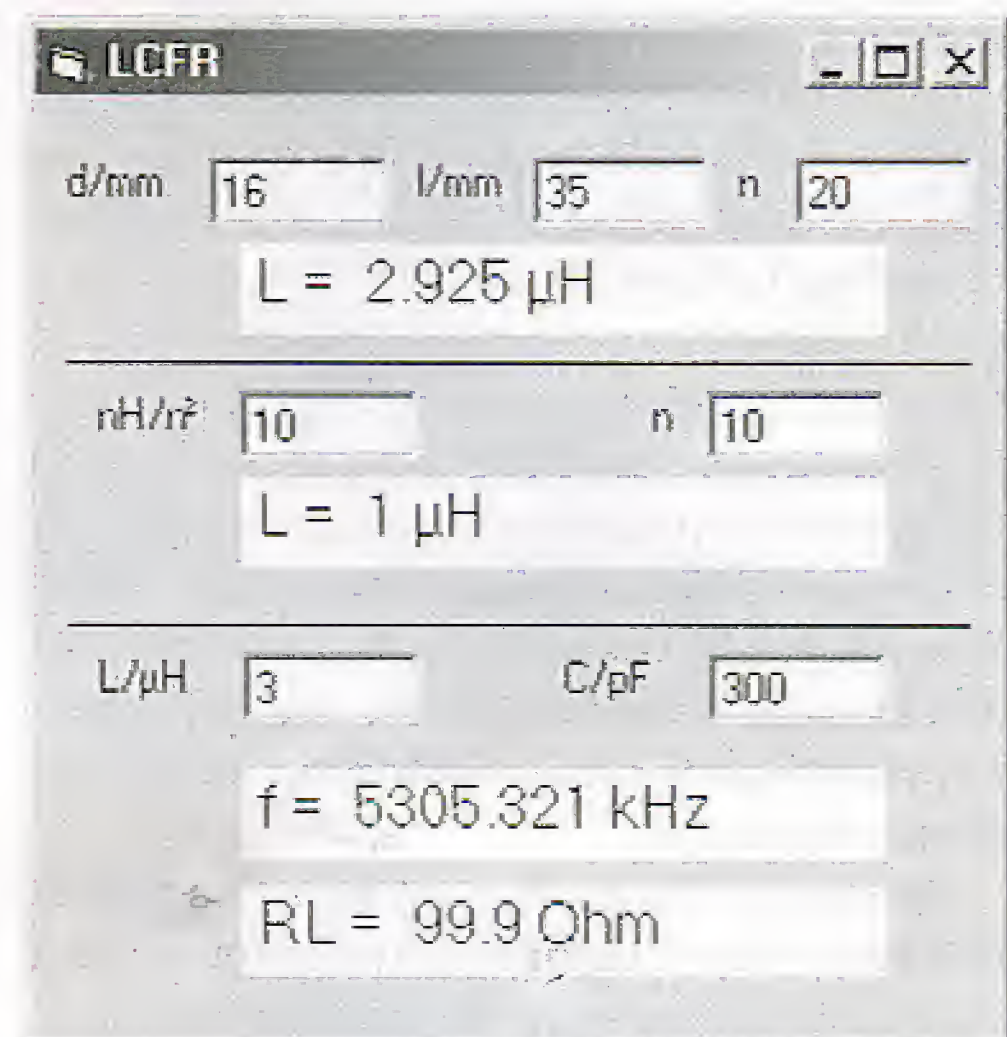

Figure 6. User interface for the inductor calculation program.
A small Visual Basic (VB) program called **LCFR** has been written to make calculations for inductors and resonant circuits. The source and executable code for this program can be obtained free of charge from the *Elektor Electronics* website. The number is **030398-11**, see this month's Free Downloads. This program, whose user interface is shown in Figure 6, calculates the inductance of air-core inductors and inductors using cores with known A_L values. In addition, it can determine the resonant frequency and inductive impedance R_L of the inductor at resonance if a capacitance value is entered in addition to the inductance value.